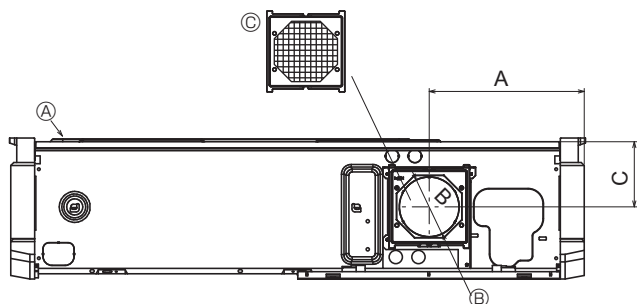

Fig. 3-4
3.2.4. Fresh air intake hole (Fig. 3-4)